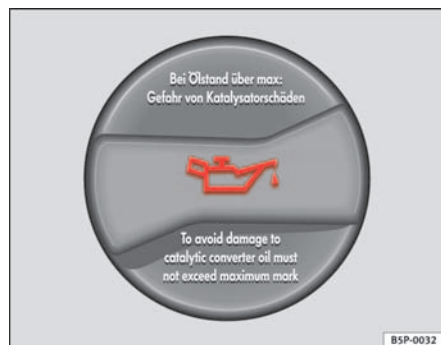

Fig. 143 In the engine compartment: Engine oil filler cap
- Unscrew cap from oil filler opening ⇒ fig. 143.